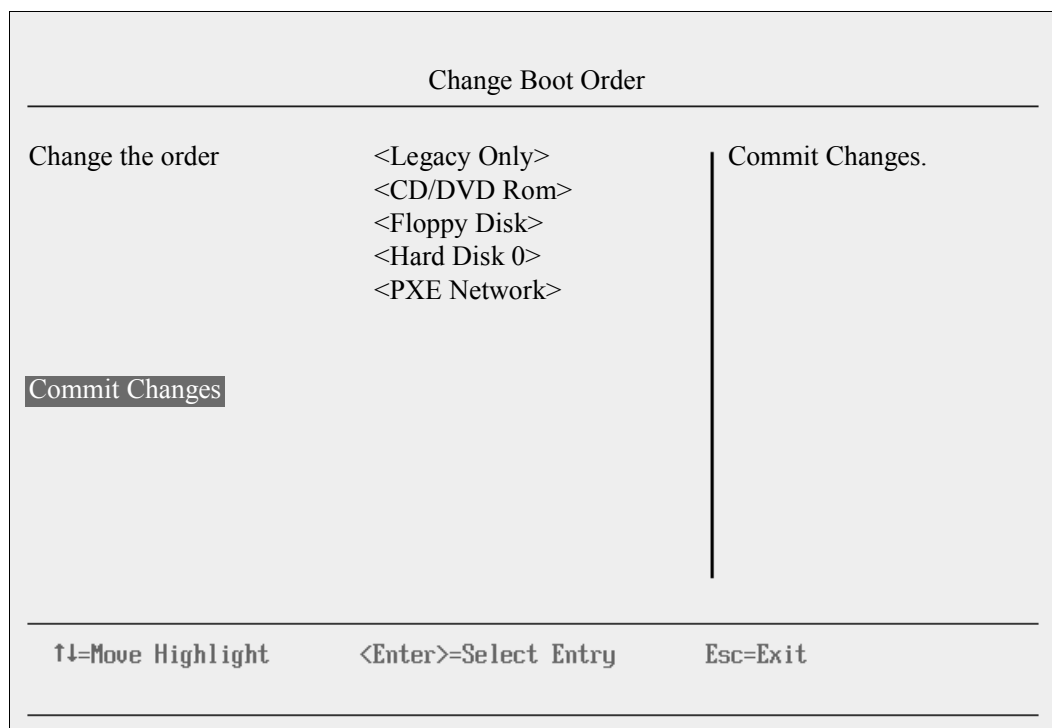

Figure 9-203 Moving Legacy Only to the top of the order
6. In the Change Boot Order panel (Figure 9-203):